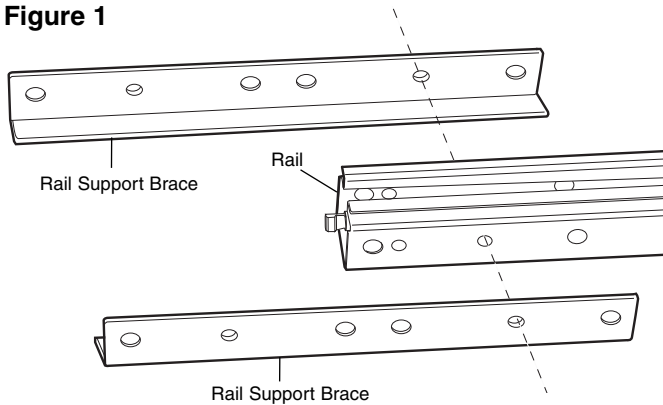

Figure 4
6. Place the c-clip onto the long journal shaft (center rail) to ensure that the sleeve does not slide (Figure 4).